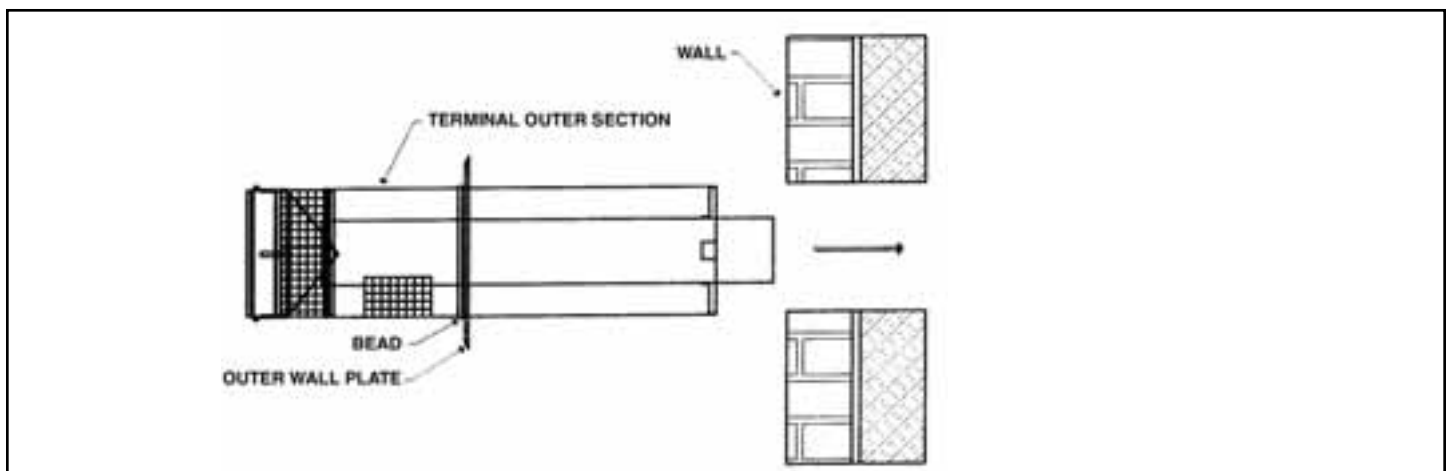
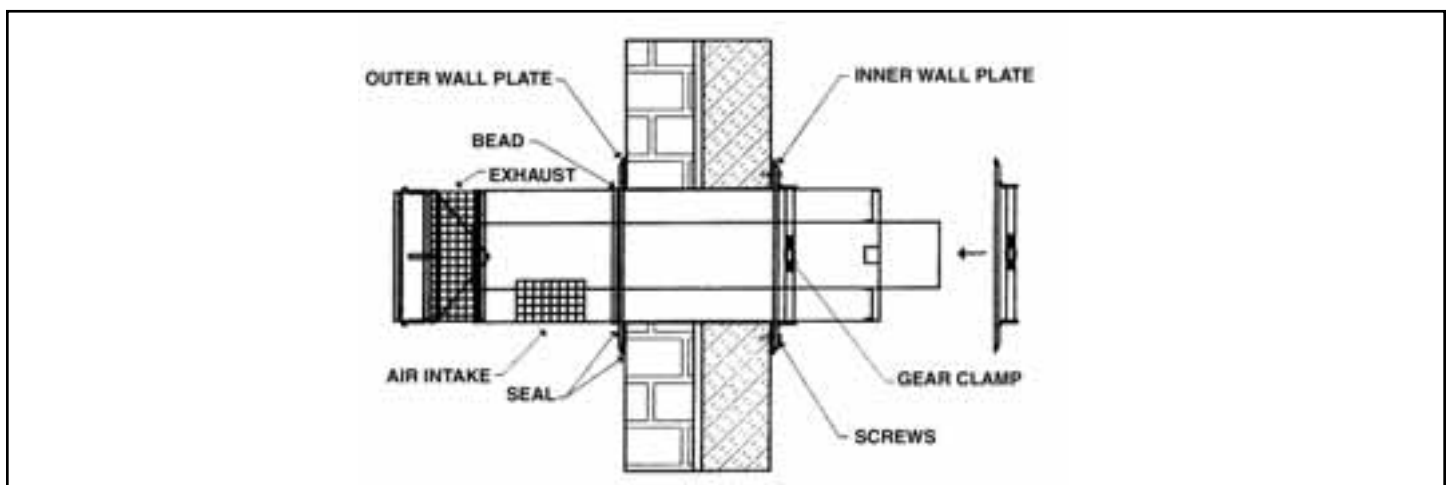

FIGURE 6: Vent terminal installation into wall
FIGURE 7: Vent terminal mounting
Use Figure 6 and Figure 7 to complete the following steps.
8. Air intake piping is field supplied and must be installed according to local code requirements. Galvanized flue pipe or Flex L air intake piping can be used. For optional Flex L air intake piping, stretch the air intake flex to desired length and slide over the air intake collar. Seal the connection with the aluminum tape and secure using air intake clamp. Beaded end of (Figure 7) the air intake clamp should go first over the air intake collar.